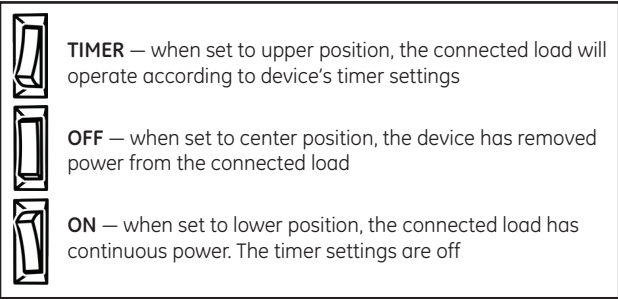

FIG 6
- Set master switch to the TIMER position [FIG 6]: